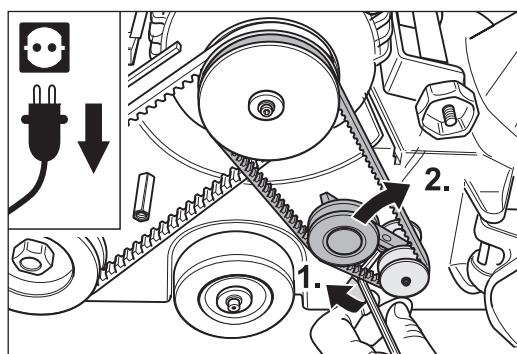

Fig. 96 Open the clamping screw of the belt tensioner (1.) and release the tension of the suction V-belt (2.).
- 6 Open the clamping screw of the belt tensioner for the suction V-belt (Fig. 96, 1.)
- 7 Turn the belt tensioner clockwise to release the tension of the suction V-belt (Fig. 96, 2.).
- 1 Open the clamping screw of the belt tensioner for the suction V-belt (Fig. 96, 1.).
- 2 Turn the belt tensioner clockwise to release the tension of the suction V-belt (Fig. 96, 2.).